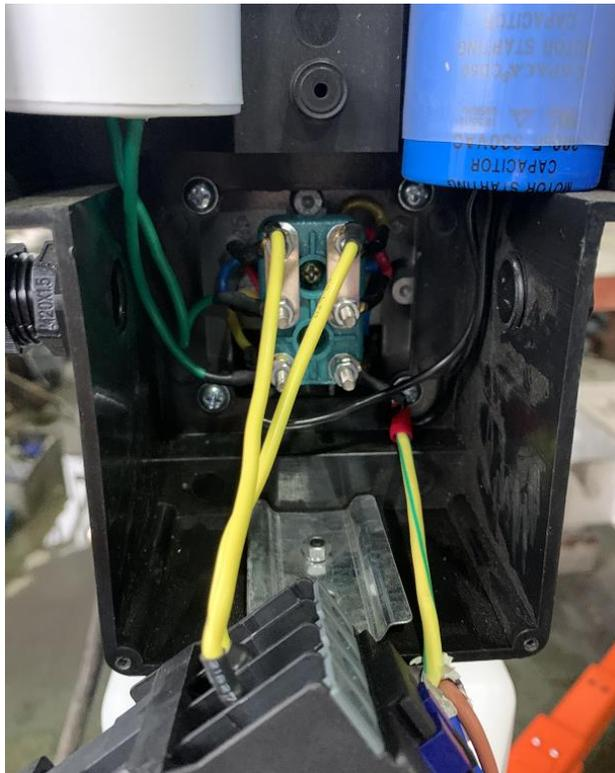

Fig. 15
3.5 Connect the ground wire on the ground stud located at lower right corner (Fig. 15).